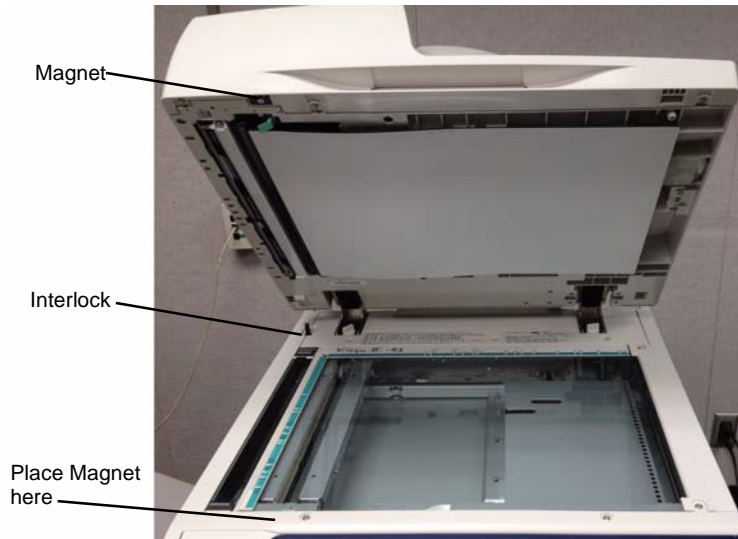

Figure 1 Making a copy with the Platen open
- a. Remove the magnet from the DADF housing (Figure 1).
- b. Place the magnet over the area on the console where the magnet would touch when the DADF is closed (Figure 1).
- c. Hold down the DADF Interlock (Figure 1) while pressing **Start**.